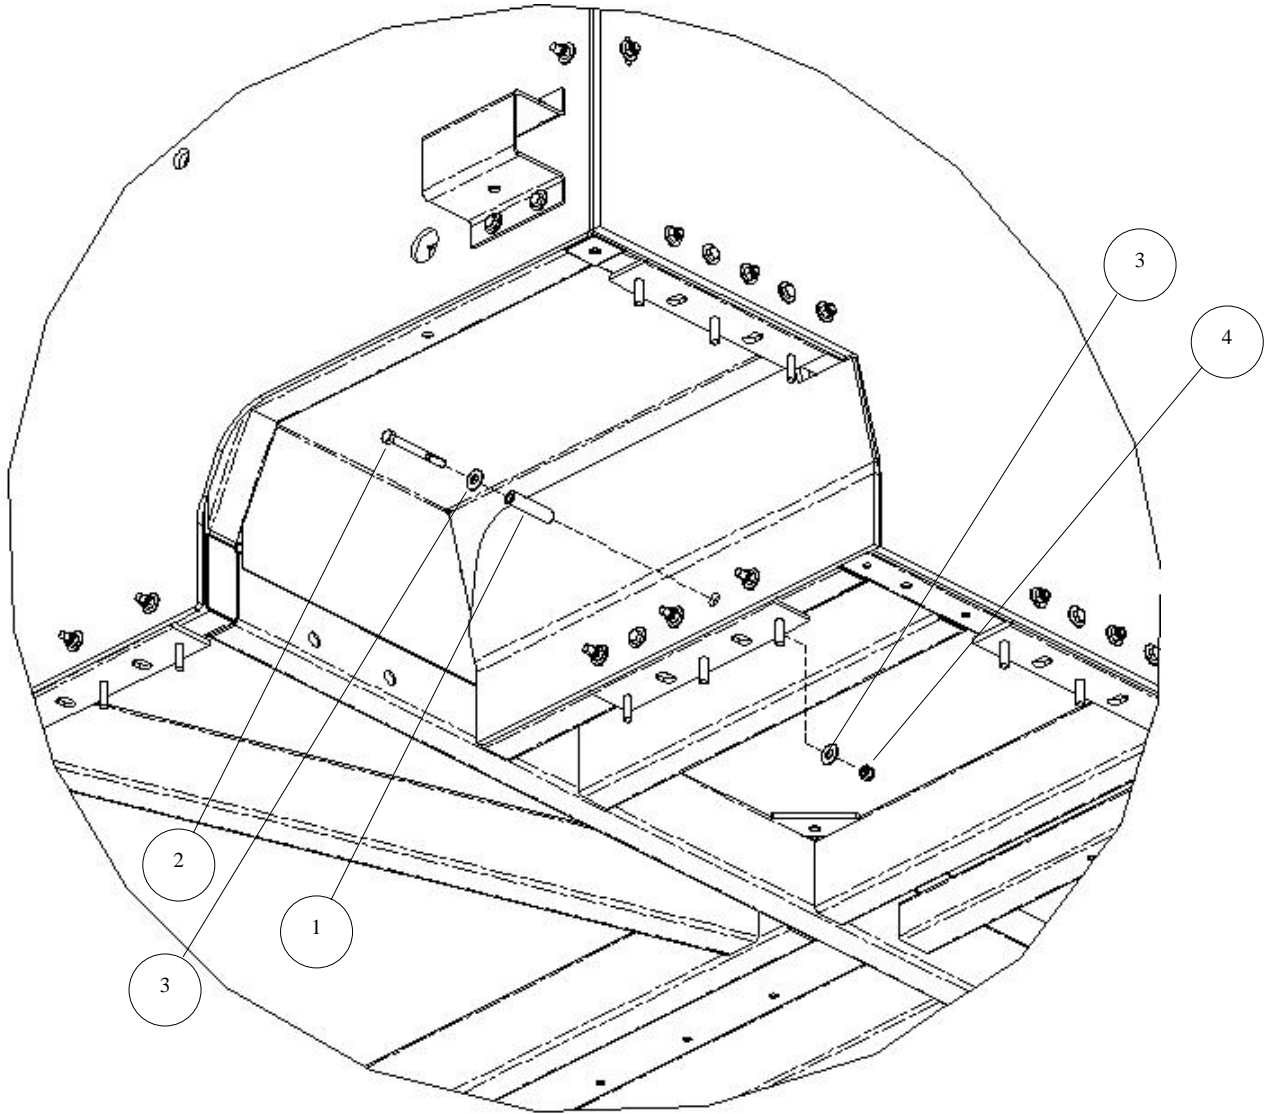

Figure 3-28. Cab Frame Rail Sleeve Bushings Installation.
3. Install cab frame rail sleeve bushings as follows (see Figure 3-28):
- a. Install two sleeve bushings (1) and secure each with one bolt (2), two flat washers (3), and one locknut (4). Torque locknuts to 35 lb-ft.